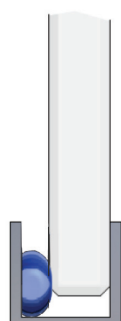

FIG 7.
- From outside the shower, slide glass panel into position (**FIG 7**)